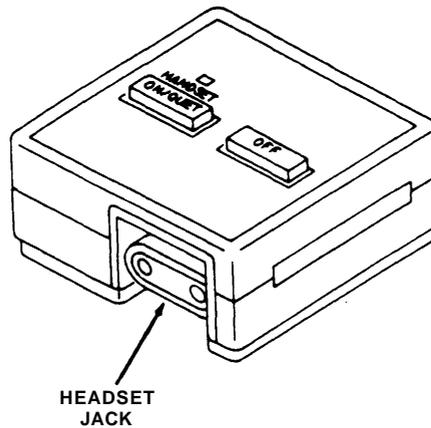

Figure 3
3. If your headset has a 2-prong plug, insert it into the headset jack on the front of the adapter (see Figure 3).